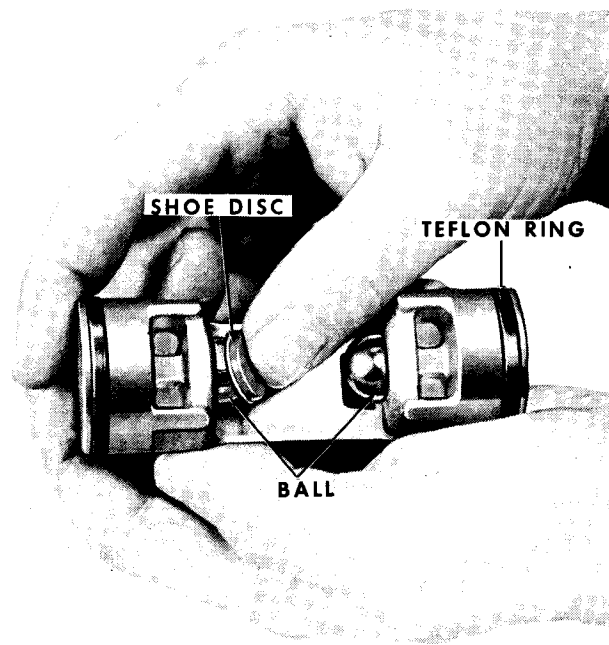

Figure 107—Installing Front Shoe Disc
7. Lubricate cavity of zero shoe disc with 525 viscosity refrigerant oil and place shoe disc over ball in front end of piston (figure 107).